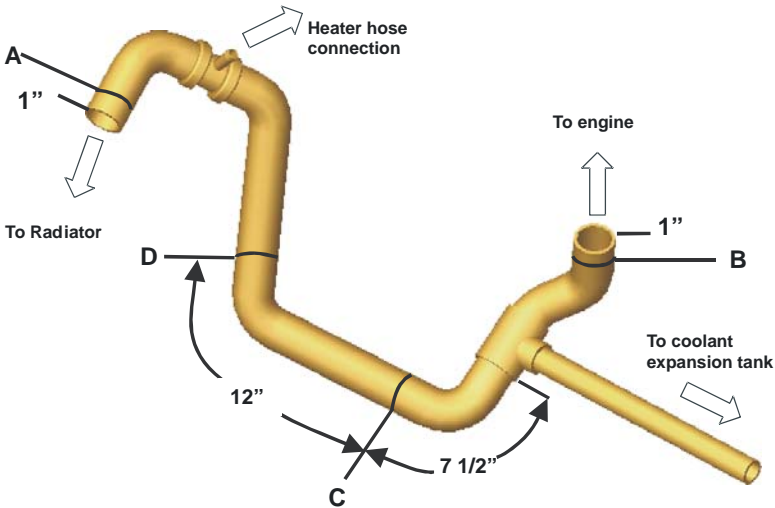

Figure 2.7
- Cut the lower radiator hose to length (Figure 2.7) and install each hose section back to the original positions, between the radiator and the cooler and the engine and the cooler.